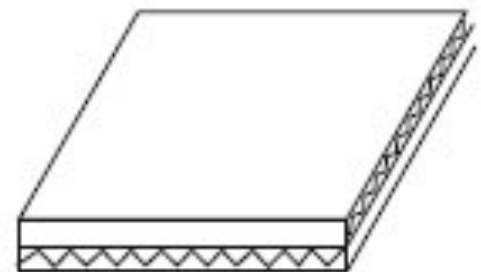

Fig. 2
- 3) A double tray requires two trays glued together with the corrugated blueboard at right angles to adjacent layers for strength (Fig. 2).